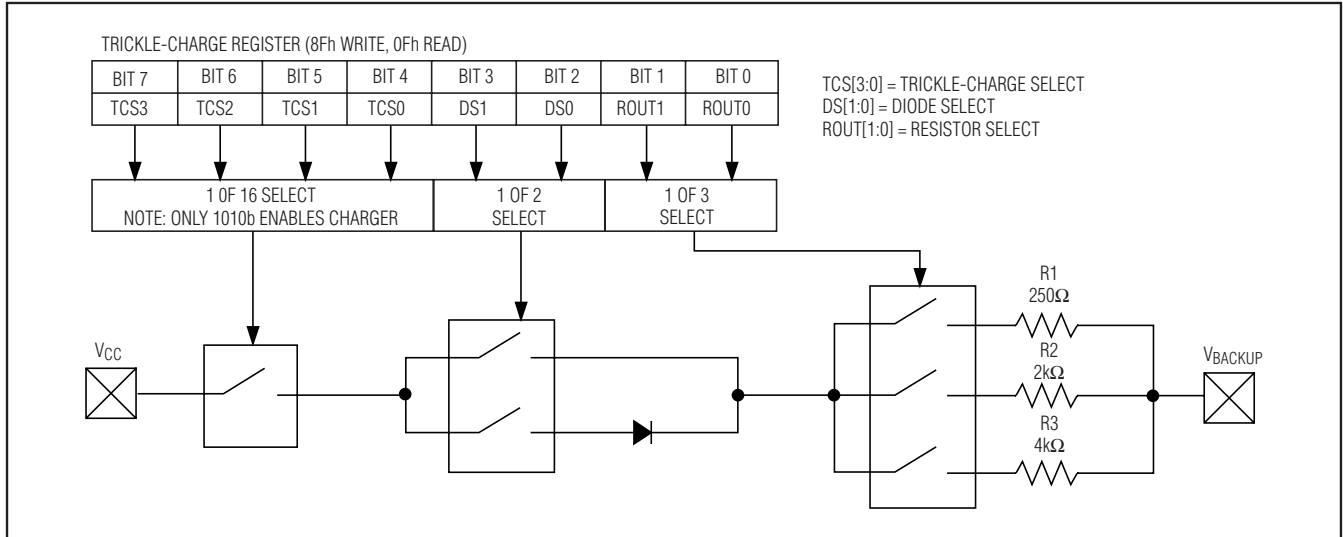

Figure 8. DS1390-DS1394 Programmable Trickle Charger
The simplified schematic in Figure 8 shows the basic components of the trickle charger. The trickle-charge select (TCS) bits (bits 4 to 7) control the selection of the trickle charger. To prevent accidental enabling, only a pattern on 1010 enables the trickle charger. All other patterns disable the trickle charger. The trickle charger is disabled when power is first applied. The diode-select (DS) bits (bits 2 and 3) select whether or not a diode is connected between  $V_{CC}$  and  $V_{BACKUP}$ . If DS is 01, no diode is selected or if DS is 10, a diode is selected. The ROUT bits (bits 0 and 1) select the value of the resistor connected between  $V_{CC}$  and  $V_{BACKUP}$ . Table 5 shows the resistor selected by the resistor-select (ROUT) bits and the diode selected by the diode-select (DS) bits.